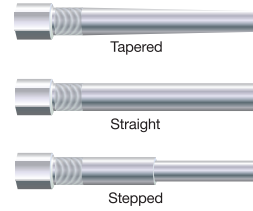

Figure 3.3.3.3a – Thermowell Stem Profiles
- Thermowell Style See Figure 3.3.3.3a